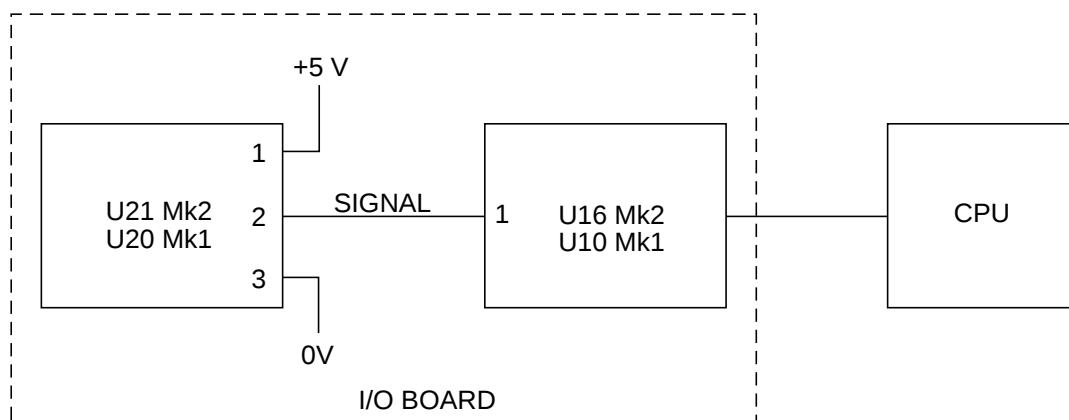

Fig 11.15 Cabinet temperature controls
20.2 Fig 11.15 - Cabinet temperature controls.